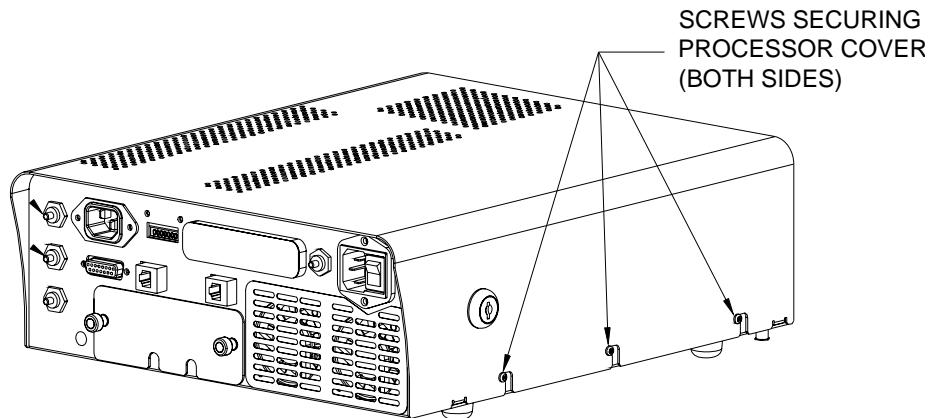
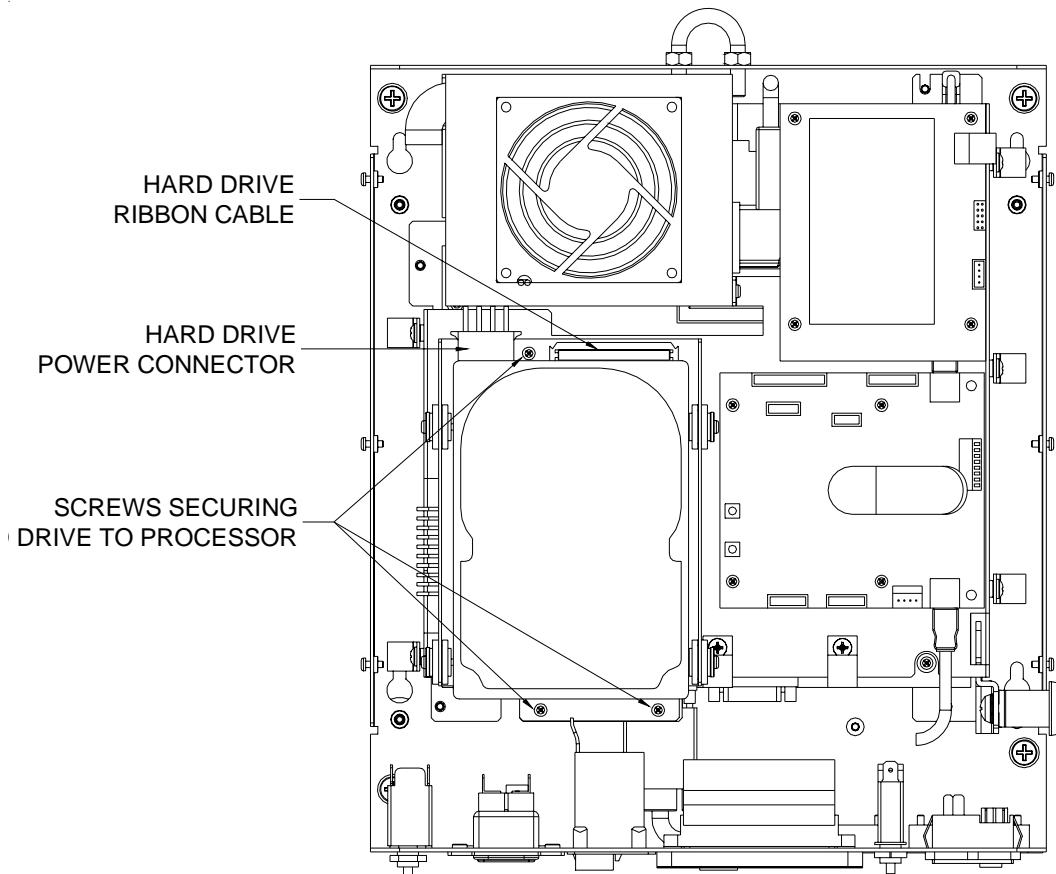

FIGURE 1 - REMOVING PROCESSOR COVER
FIGURE 2 - TOP VIEW OF PROCESSOR WITH COVER REMOVED -
4. Using Figure 1, remove the 4 screws fastening the I/O board (the I/O board will be on the top or left edge of the motherboard). Then carefully move the board aside until you're able to remove the 2 standoffs fastening the edge of the motherboard to the game (see Figure 2).
5. Remove the 2 screws fastening the other edge of the motherboard to the inside of the game (see Figure 1), then carefully lift the motherboard out of the game and insert the board into an anti-static bag for storage. NOTE: Be sure to read the Motherboard Handling Precautions before handling the board.
1. Place the new motherboard in the game and fasten one side with the 2 screws and the other side with the 2 standoffs (see Figures 1 and 2).
2. Fasten the I/O board and with the 4 screws (see Figure 1).